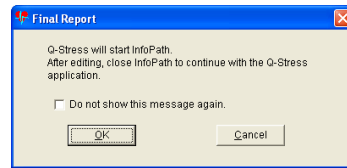

Figure 11-2: Example of the start InfoPath dialog box
- In the dialog box (Figure 11-2), click **OK** to start InfoPath. You may receive a warning from InfoPath. Ignore the warning and click **OK** in the warning dialog box.